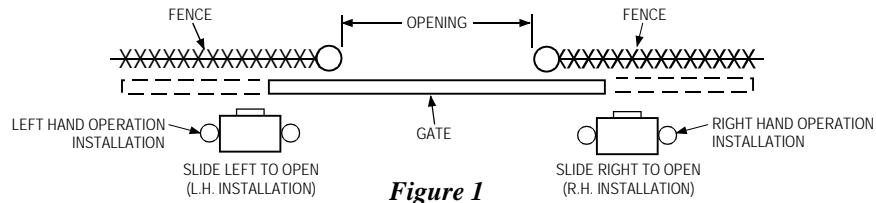
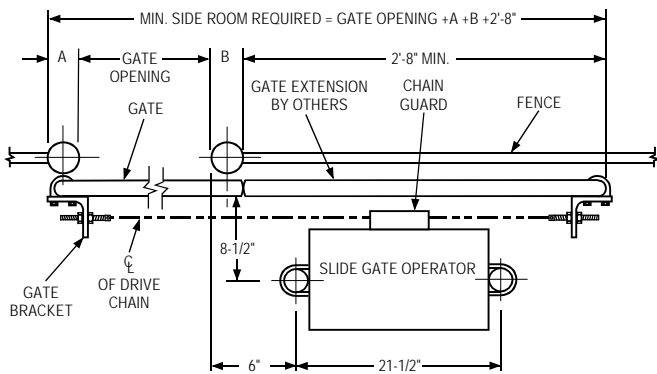
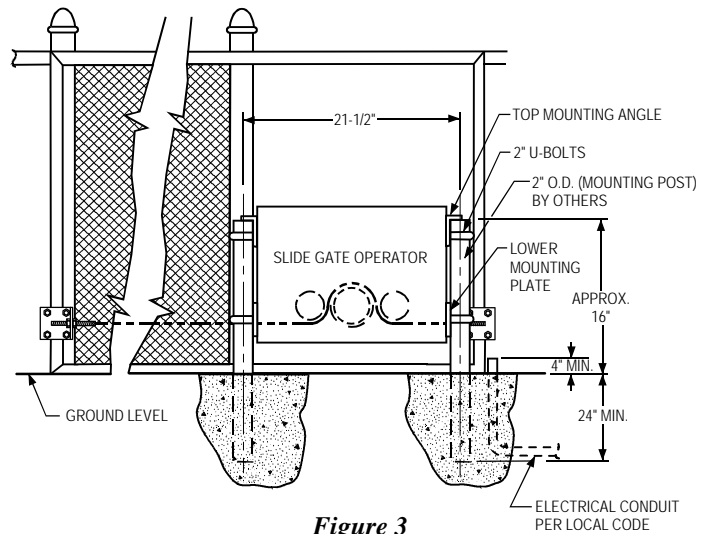

Figure 1
Figure 2
Figure 3
Gate and/or extension must extend beyond the operator location as shown in fig. 1, fig. 2, and fig. 3. Operator will be placed as shown, in fig. 1 page 5, for left and right hand installation.
- (1.) Layout mounting post and electrical conduit locations (See Figs 2 & 3).
Note: Remove operator top cover and chain guard for access. If gate extension is required, do so before installing operator (See Fig. 2).
- (1.) Mount operator on posts with U-bolts, mounting angles, mounting plates and hardware provided (See Fig. 3).
- (2.) Mount (1) gate bracket at each end of gate as shown (See Fig. 2).
Note: Height of gate bracket center line is to be even with the drive chain exiting operator (See Fig. 3).
- (7.) Stretch drive chain out to operator and thread it around the first idler sprocket, and main drive sprocket, and second idler sprocket (See Figs 3 & 5).
- (9.) Position chain take-up bolts in gate brackets, at each end of gate, so chain aligns with drive sprockets (See Fig. 2, Page 5).
Refer to (Fig. 1) to determine hand of operator required for this installation. This unit is factory setup for right hand operation.